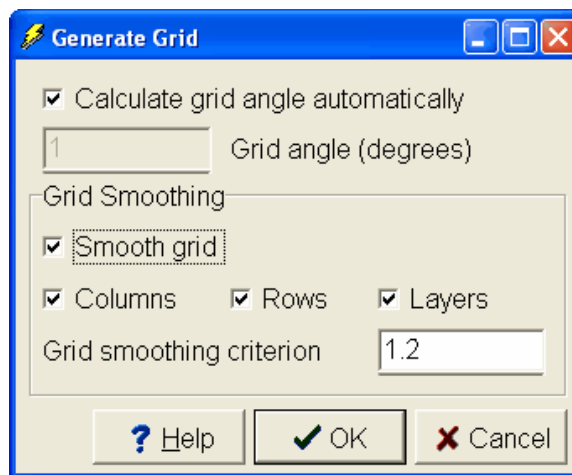
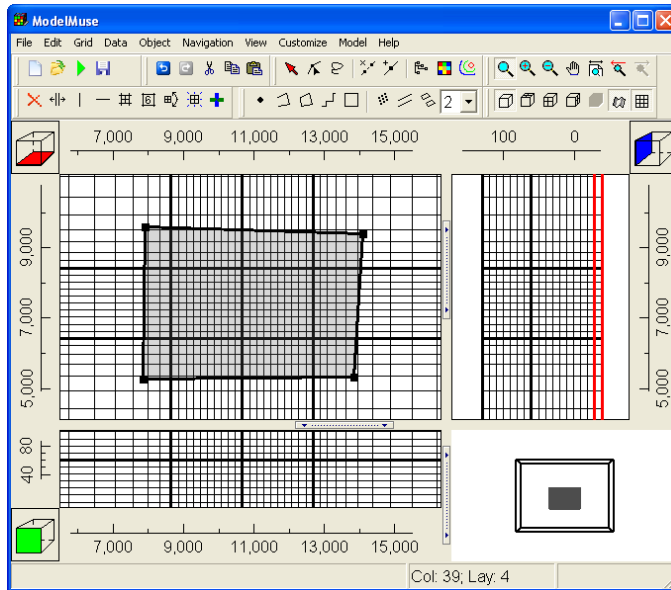

Figure 16. Generate Grid dialog box with grid smoothing activated.
Figure 17. Grid generated with grid smoothing.
5. In some cases, it may be desirable to have a gradual transition in element size. A size transition can be achieved by checking the **Smooth grid** checkbox in the **Generate Grid** dialog box (fig. 16). When it is checked, the widths of the columns, row, or layers will be adjusted so that the maximum ratio of the widths of adjacent cells is less than or equal to the grid smoothing criterion. An example of such a grid is shown in figure 17. See “Editing the Grid” in the help system for more information on grid smoothing.